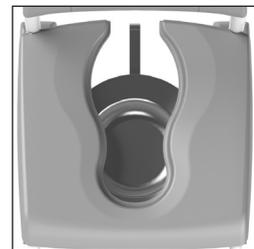

Figure 19 Stainless steel bedpan, front.
- If you are using a stainless steel bedpan or bucket, the bedpan can be placed in 2 positions under the seat. At the front of the seat (See *figure 19*) or at the back of the seat (See *figure 20*).